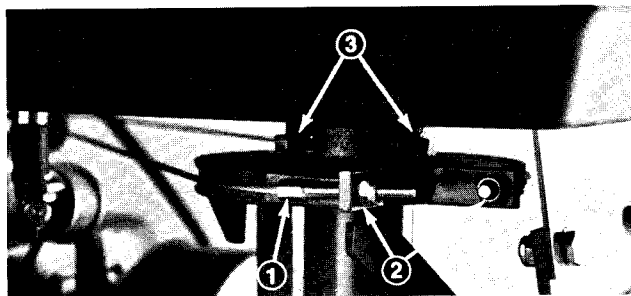

Figure 1
1. Remove slack from both cable ends by securing the cable end hex with an open end wrench and turning the nut on the cable end with another wrench (Fig. 1).
3. Periodically check the setscrews securing the rear steering drum to the caster fork shaft for tightness. Loosen the jam nuts, tighten the setscrews and retighten the jam nuts as necessary (Fig. 1).